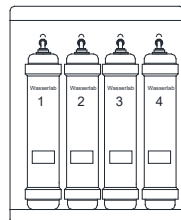

Figure 11.3
- Access the location of the resin cartridges (Cartridges [3] and [4]): The cartridges are installed inside the equipment, on the right side. Remove the right cover to access the cartridges. See Figure 11.3.